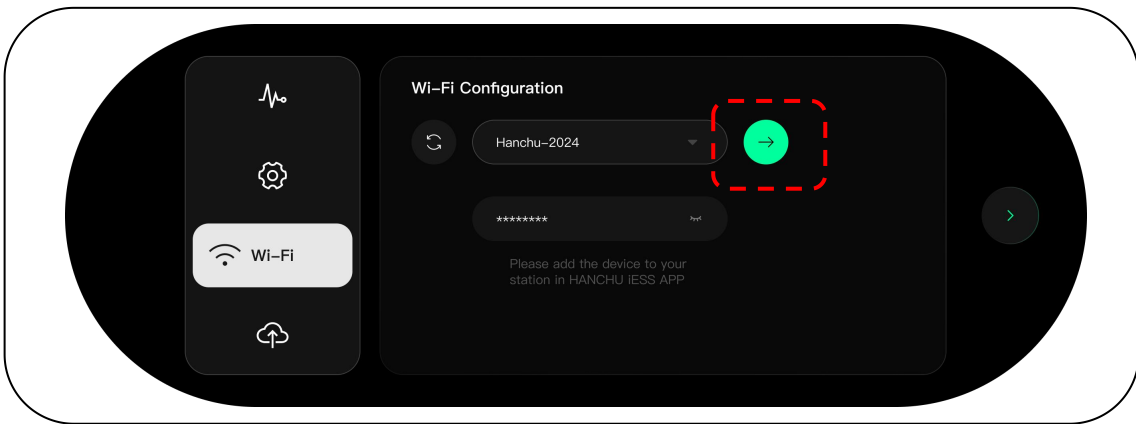

Figure 59
- 3) Enter the password and click Confirm, as shown in Figure 59.